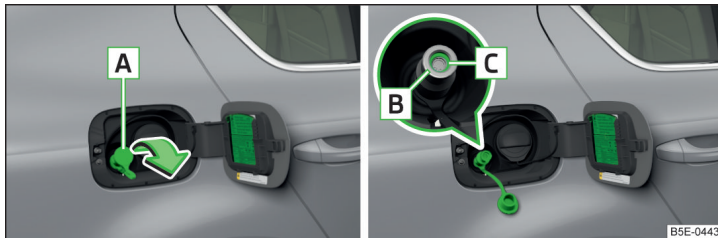

Fig. 194 Natural gas filler tubes
- > Remove cap **[A]** > Fig. 194 from gas filler tube **[B]** in direction of the arrow.
- > Check that sealing ring **[C]** > Fig. 194 has remained inserted in the gas filler tube.